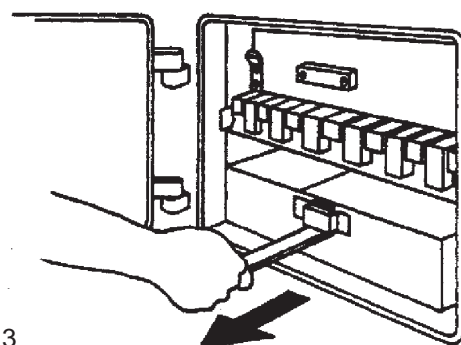

Fig. 13
- Remove ashpan, empty and replace (Fig. 13).
- Remove ashpan and empty (Fig. 13).
Open the ashpan door to give access to the ashpan which must be emptied regularly (See Fig. 13).